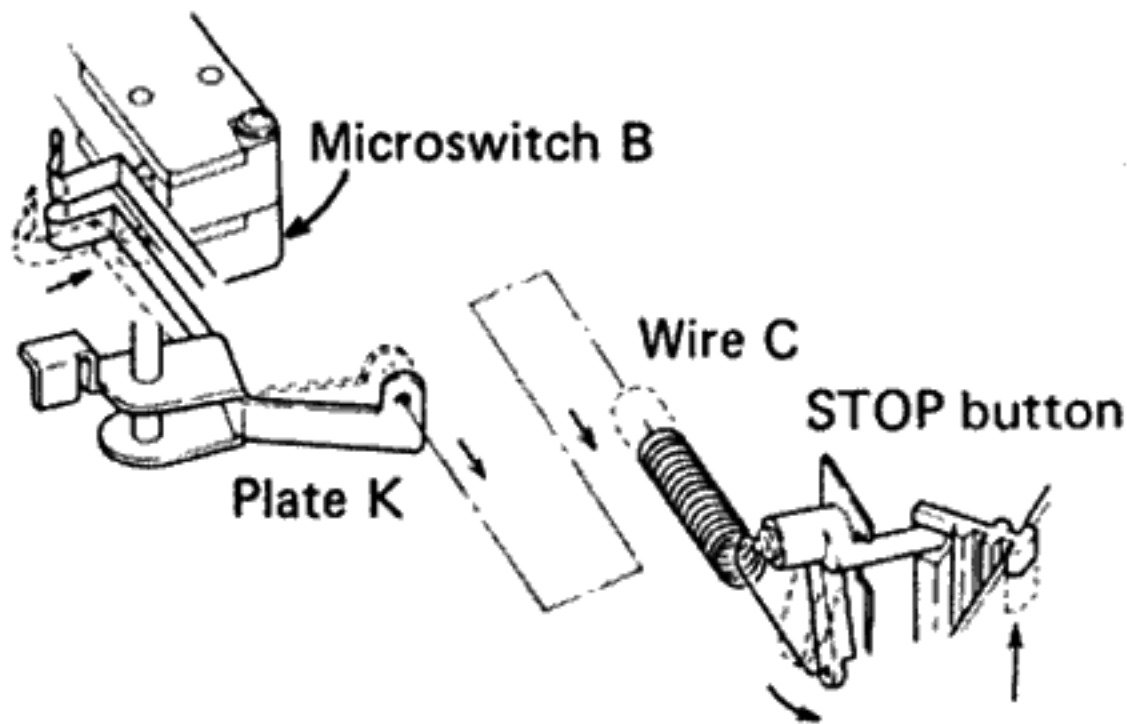

Fig. 15
- 1. When the STOP button is pressed during play, wire C pulls plate K, setting microswitch B to ON (Fig. 15).